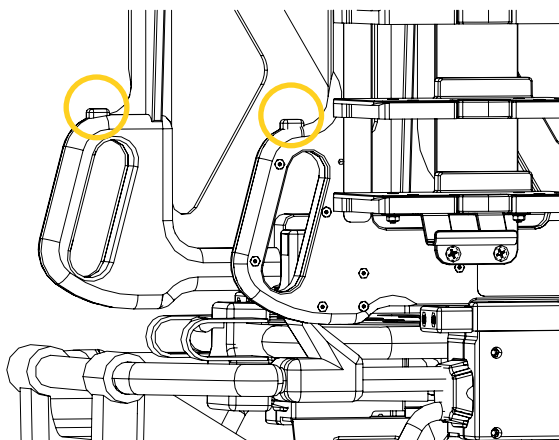

Figure 44: Mobile structure quick release mechanisms
13. Grab the mobile structure handles, then press and hold the buttons of the quick release mechanisms (Figure 44).